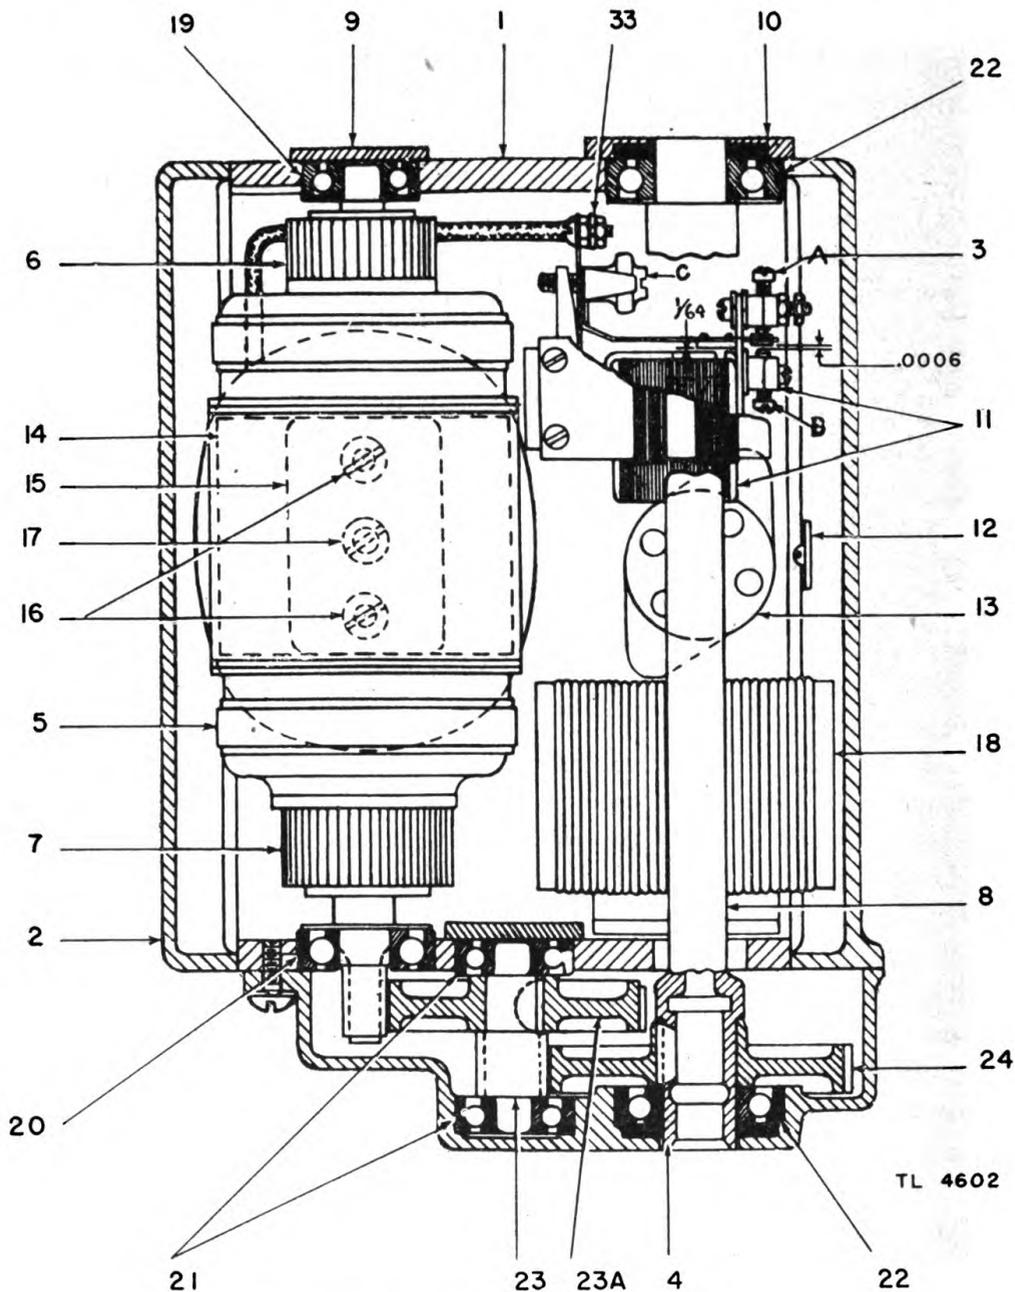

FIGURE 28.—Generator GN-44-A—section view.
(1) Remove top cover from generator.
(2) Loosen setscrew that holds B. Loosen B sufficiently to allow gage 12 to pass between vibrator contact and B.
(3) Loosen setscrew that holds A and adjust A until spacing (determined with gage) between vibrator and core is $\frac{1}{4}$ inch.
(4) Adjust B until spacing (determined with gage) between vibrator contact and B is 0.0006 inch.
(5) Tighten setscrew that holds A and B.
(6) Adjust C until the output voltage is 295, as shown on the name plate, when the generator is connected to the radio set and the conditions required in paragraph 16*d* (1) (b) to (e), inclusive, exist.
b. Lubrication.—Maintenance will consist of inspection and lubrication of the bearings at 6-month intervals. Use S-58 nonfluid oil from the New York and New Jersey Lubricant Company, New York City, or ANDOK C grease from the Standard Oil Company of New Jersey or an equivalent lubricant. *Do not use petrolatum.* There are six bearings requiring this service and just enough grease should be used to keep the ball bearings from rusting. To apply the grease, proceed as follows: Remove legs from generator and place generator so that it stands up on the gear case. Unscrew caps 9 and 10 (see figs. 28 and 29) and insert grease between the inner and outer ball races. Replace caps. Remove nut and washer which ground capacitor C205, and stand generator so that gear case is at the top. Remove gear case 4 and intermediate pinion 23. Apply grease to ball races in gear case and to ball races 21 in magnet frame and armature bearing 20. Add grease to the gears, filling up between the gear teeth. Replace gear case, making certain that screws retaining it to the frame are tightened evenly. Replace nut and washer which ground capacitor C205. Replace cover.
d. *Armature and field coil replacements* (see figs. 28, 29, and 30).—The replacement procedure for armature and field coils is as follows:
(1) Because of the construction of the generator, the armature and the pole pieces must of necessity be handled together. The upper cover 3 of the generator frame must be opened and the regulator unfastened from the magnet frame in order to disconnect the lead of the